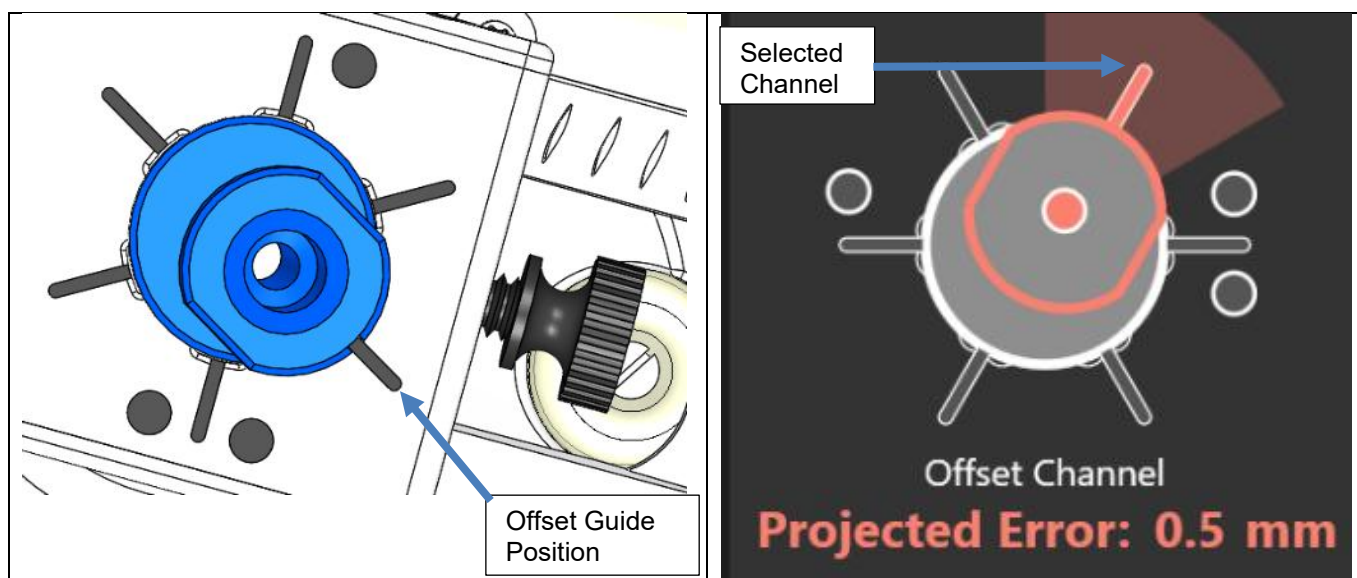

Figure 29: Offset Guide inserted into the position that was selected in the ClearPoint Array Software
6. Verify that the Offset Insertion Guide is positioned in the channel selected in the ClearPoint Array software. The orientation dots on the tower match up with those shown on the software. **See Figure 29.** If it is not, loosen the tower side thumbscrew, raise the Offset Insertion Guide and rotate it until the tab (white line) aligns with the correct position. Then, repeat Step 6.